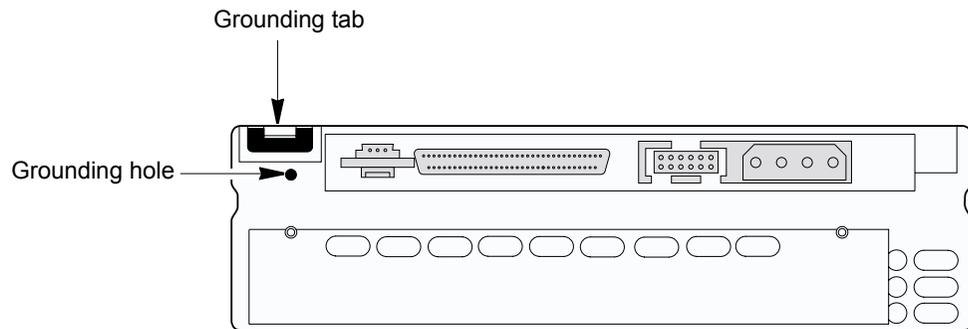

Figure 2-6 Grounding tab and hole for the internal SCSI drive
- ▶ Connect the enclosure's grounding wire with a 1/4-inch female spade connector to the grounding tab, shown in Figure 2-6.
- ▶ Connect the grounding wire to the grounding hole, shown in Figure 2-6, using an M2 × 0.4 × 6 mm self-tapping screw (available from Exabyte).